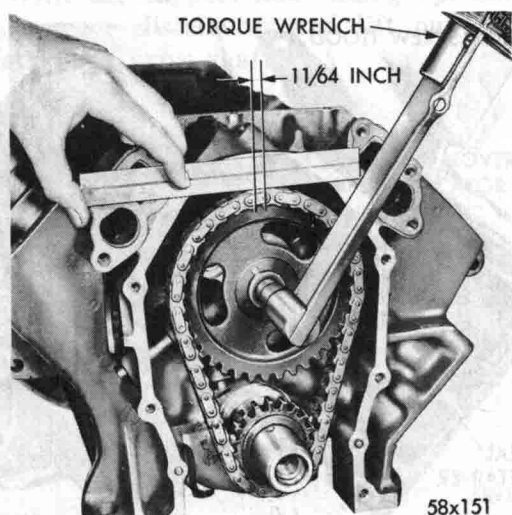

Fig. 28—Measuring Chain Stretch
(7) Use a straightedge to check alignment of the timing marks (Fig. 28).
(8) Install the washer and camshaft sprocket bolt and tighten to 35 foot-pounds torque.
(1) Install the new camshaft bearings with Tool C-2132A by sliding the new camshaft bearing shell over the proper adapter.
(2) Position bearing in the tool. Install horse shoe lock and by reversing removal procedure, carefully drive bearing shell into place, as shown in Figure 28.
(3) Install remaining shells in like manner.